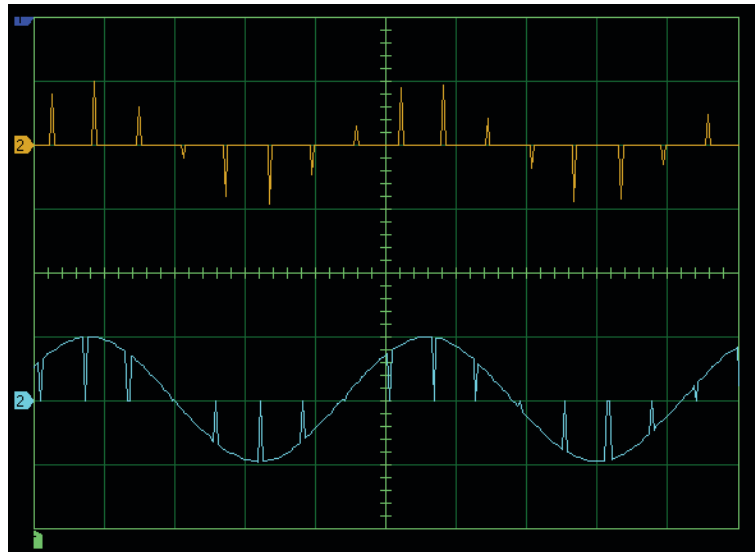

Figure 2-10. Natural sampling – narrow and wide sampling pulse.
**15.** Observe the waveform of the PAM signal with natural sampling with narrow pulse (5% Duty Cycle) and with wide pulse (95% Duty Cycle). You can display both output signals on the oscilloscope simultaneously by using Memory location M1. The resulting output should resemble Figure 2-10